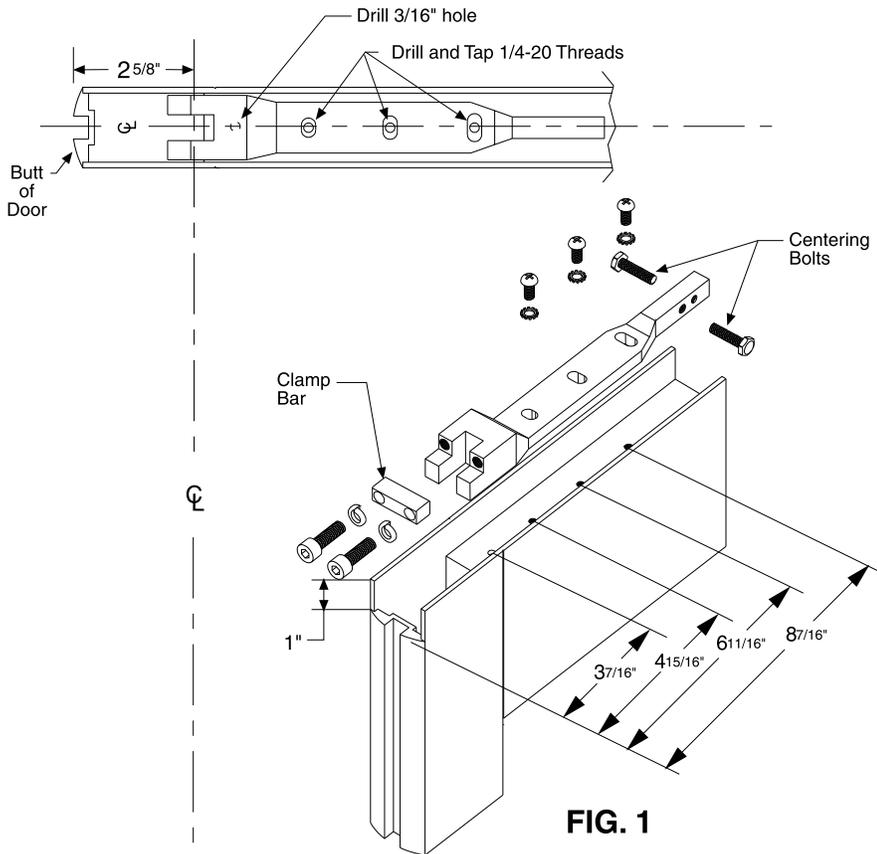

FIG. 1
1. Make a 1" deep cut-out in butt of door (see Fig. 1).